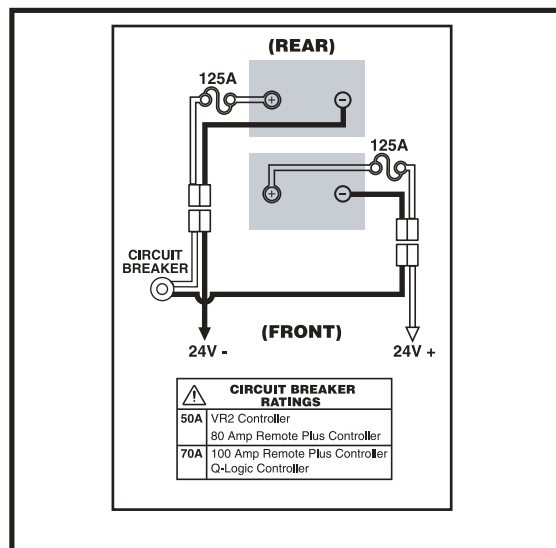

Figure 17. Battery Wiring Diagram
A battery wiring diagram is printed on a decal located on the battery door. See figure 17. Refer to the specifications table in “Appendix I - Specifications” for correct battery specifications.
5. Locate the battery quick disconnects on the frame and disconnect both of them. See figure 17.
10. Connect the battery quick disconnects according to the battery wiring diagram label located on the frame. See figure 17.